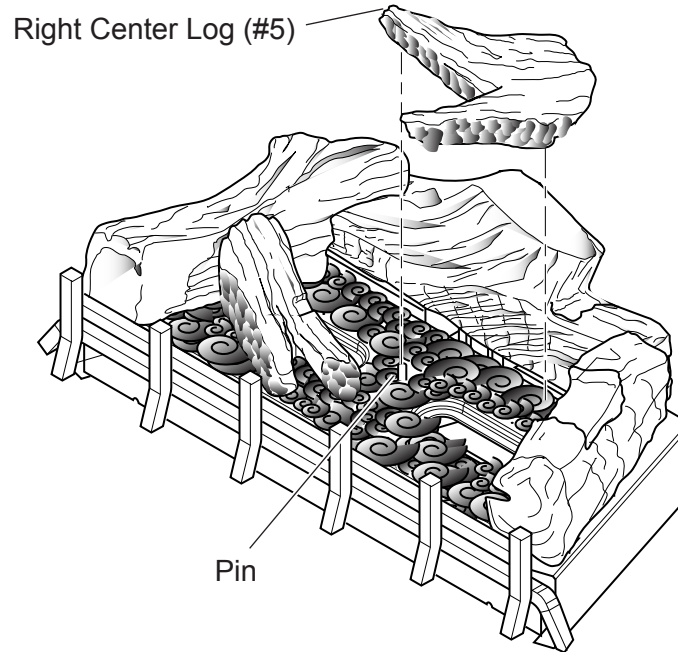

Figure 23 - Installing Right Center Log #5
8. Set right center log (#5) on center pin to the left of right base log. See Figure 23.